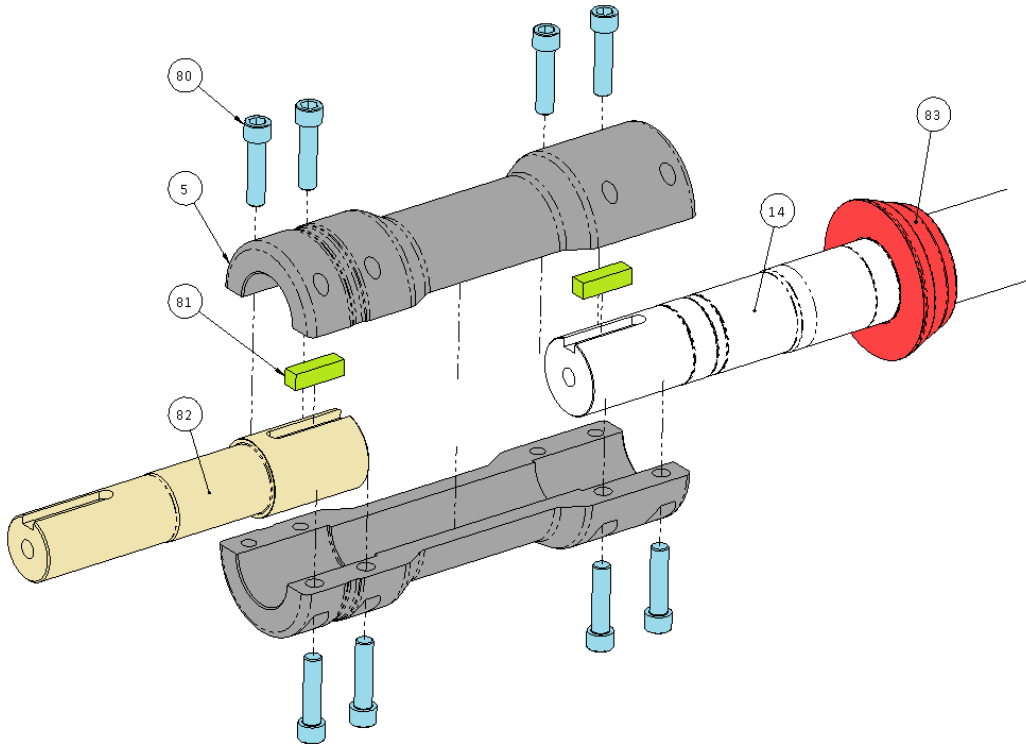

Figure 21: Shaft Coupling Assembly
6. Loosen but do not remove the (4) split coupling bolts **[80 (Figure 21)]** closest to the mechanical seal to loosen the grip on the mixer shaft just enough to allow the shaft to slide in the coupling in a later step.